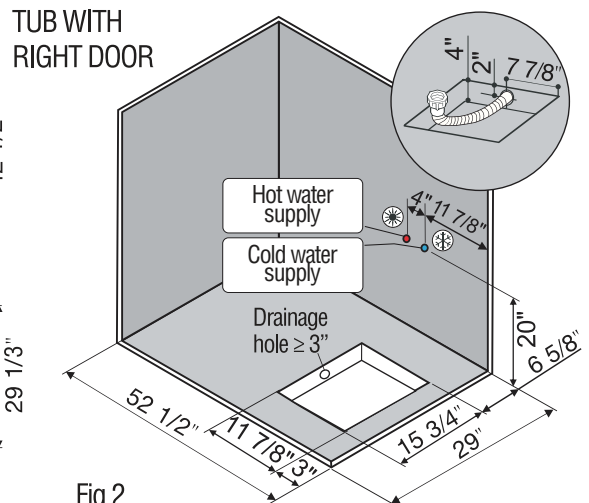

Fig 2
1. Position the tub by referring to the corresponding figures on the right. Make sure the Hot and Cold water suppliers and the drain hole are at the place shows in the figures. (Fig 1, Fig 2)